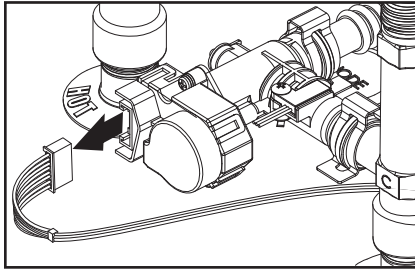

Figure 47 - Disconnect 8 Pin Wire Harness
- 5 Disconnect the 8 pin wire harness located on top of Smart Valve as shown in Figure 47. Place wires aside in a safe location so they are not damaged.